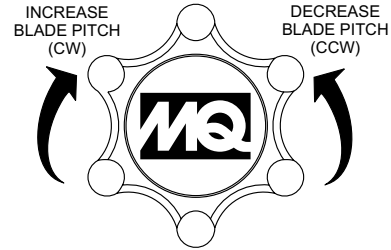

Figure 11. Blade Pitch Star Wheel
1. Expose the pitch cable to maximum by turning the blade pitch star wheel (Figure 11) fully counterclockwise for no pitch (blades flat).